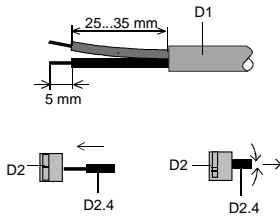

Figure 4: Connecting/disconnecting bus cables
Note: The shutter switch UP 520/01 must be mounted placing the physical external interface (PEI) at the bottom (figure 4) ensuring that the application units designated to be plugged on the PEI are mounted in the correct operational position. To guarantee a permanently ensured contact it is recommended to use only application units with mounting screws.
Connecting bus cables (figure 4)
- press the sheathing of the cut-off insulation bus line (figure 4) projecting >3mm into the open clamping slot (C4). If a further bus line shall be connected break out the closed clamping slot with a screw-driver and press it into the clamping slot as described above. Press the single bus wires into the recess below the bus terminal block and snap on the cover (C1).
Disconnecting bus cables (figure 4)